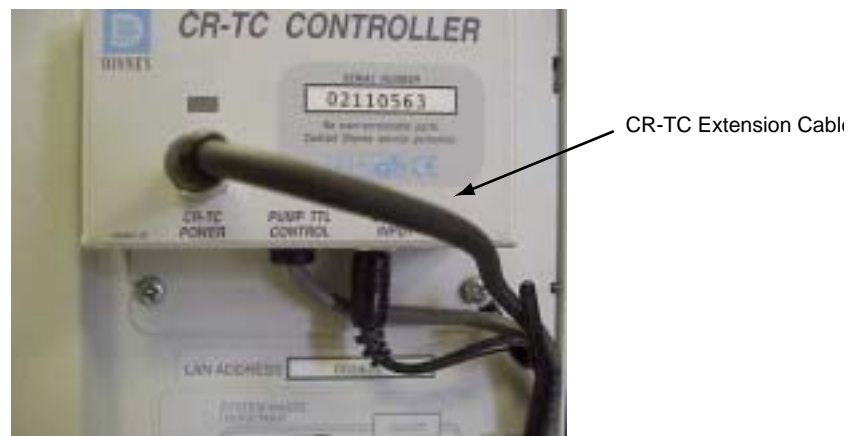

Figure 12
- B. Connect the CR-TC Extension Power Cable to the Controller Box. Tighten the fitting fingertight. See Figure 12.